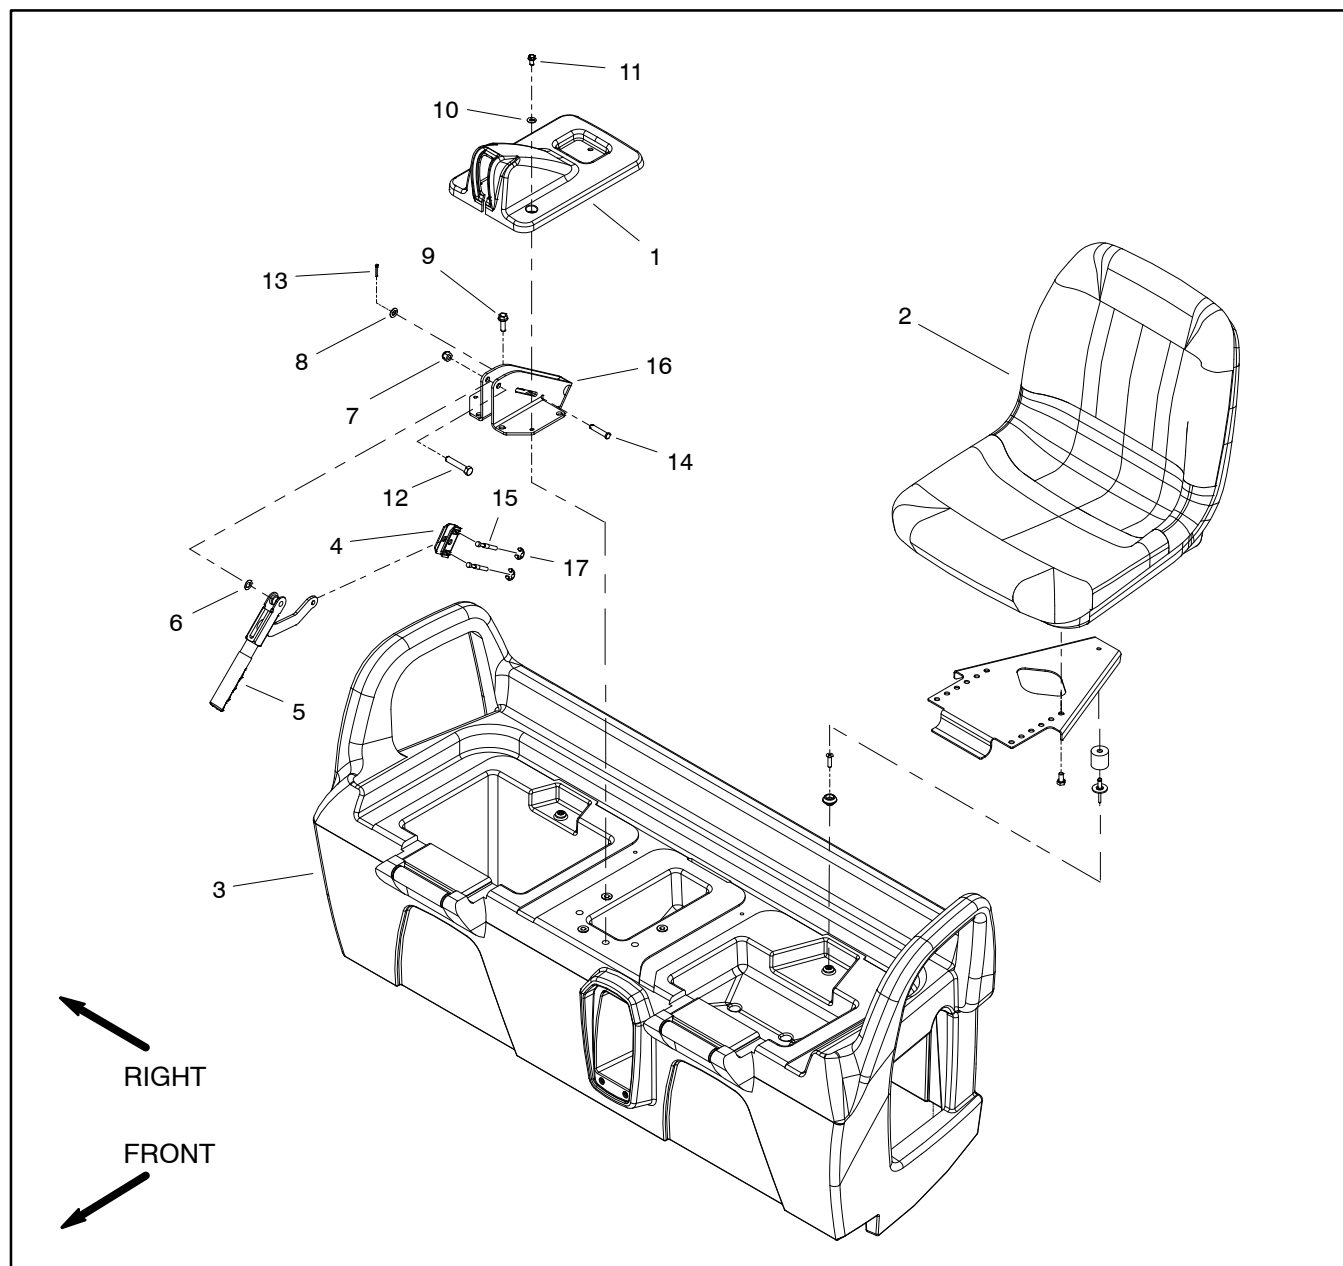
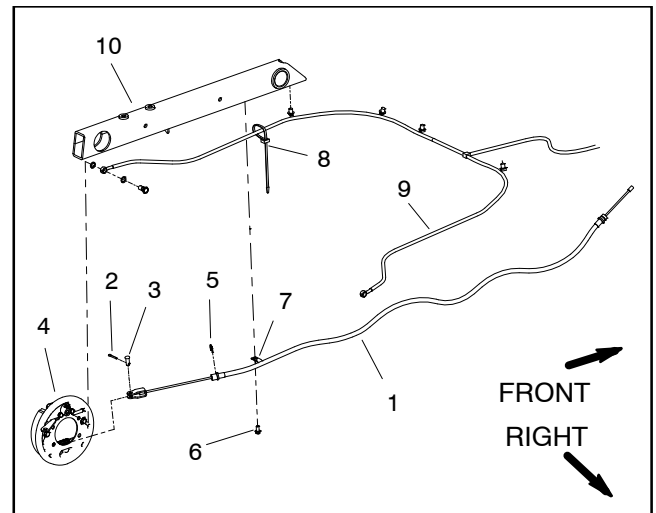

Figure 27
Figure 28
Disassembly (Fig. 27)
2. Disconnect both parking brake cables from rear of machine (Fig. 28):
4. Remove four (4) flange head screws that secure parking brake support to seat base.
6. Remove brake cables from parking brake support and cable equalizer bracket using Figure 27 as a guide.
Assembly (Fig. 27)
1. Secure brake cables to parking brake support and cable equalizer bracket using Figure 27 as a guide.
3. Secure parking brake support to seat base with four (4) flange head screws.
5. Secure parking brake cables to rear of machine (Fig. 28):